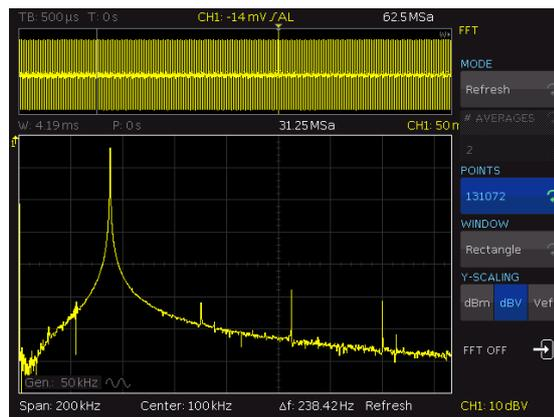

Fig. 38: Measuring a sine-wave signal using the rectangle window.
- ▶ Display the result in dBV; see Fig. 38.